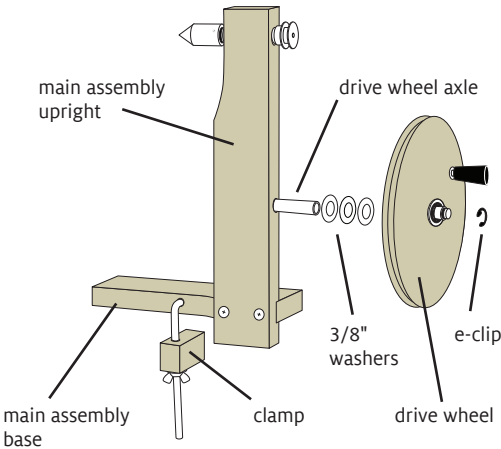

FIGURE 2: INSTALL DRIVE WHEEL (ALL WINDERS)
1. Clamp the bobbin winder base to a table top. Place three 3/8" washers on the drive wheel axle. Place the drive wheel on the axle. Press the e-clip into the groove on the end of the axle (Figure 2).